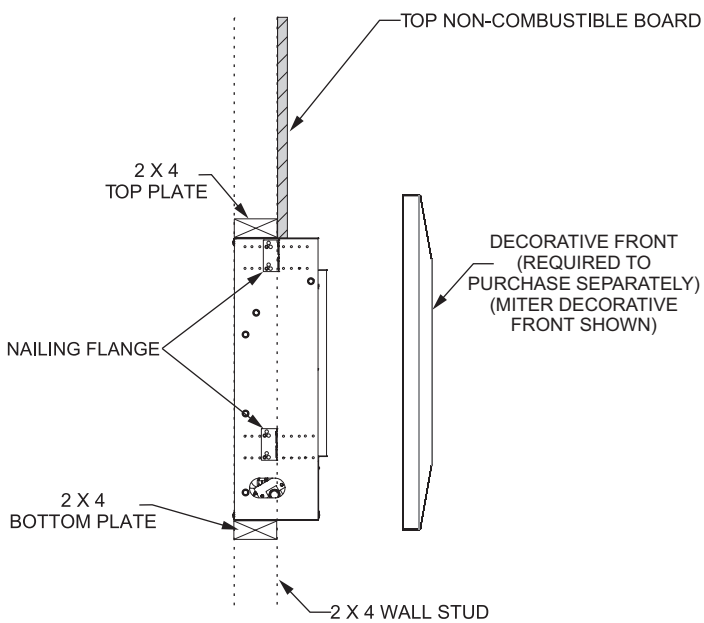

Figure 34
26. Install decorative front by inserting hook on the front above the top opening in the fireplace. Verify that the decorative front is level and fully seated. See Figure 34.